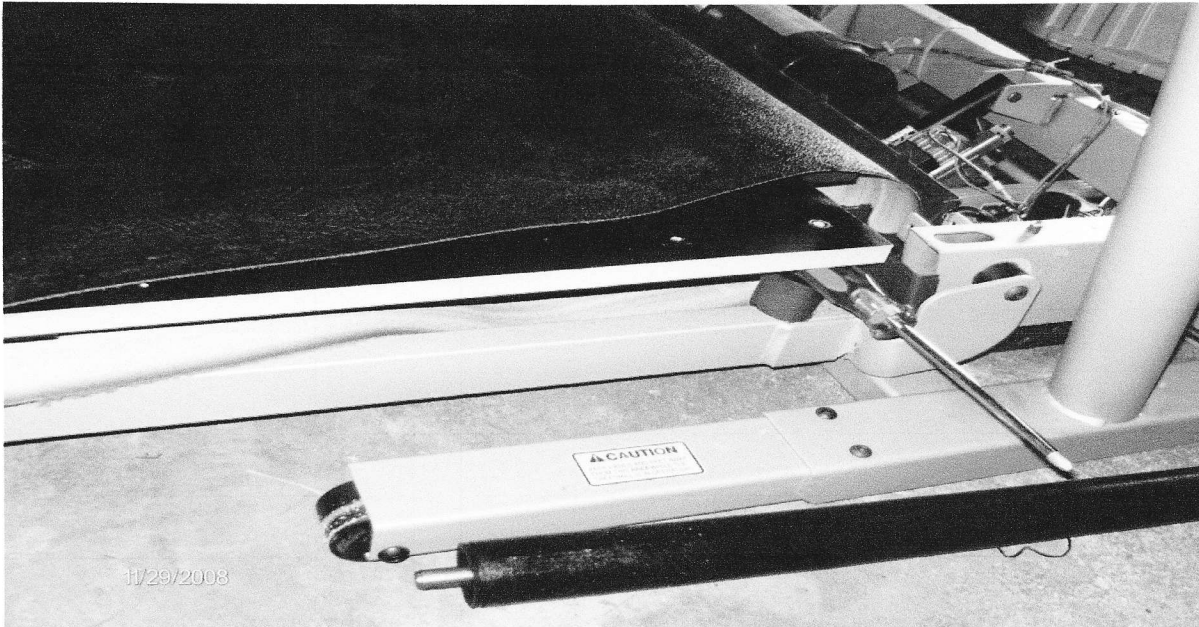

FIG 6.
6) Put a screw driver under the screw area in the front to hold the board up as you slide the new walking belt on (fig 6)